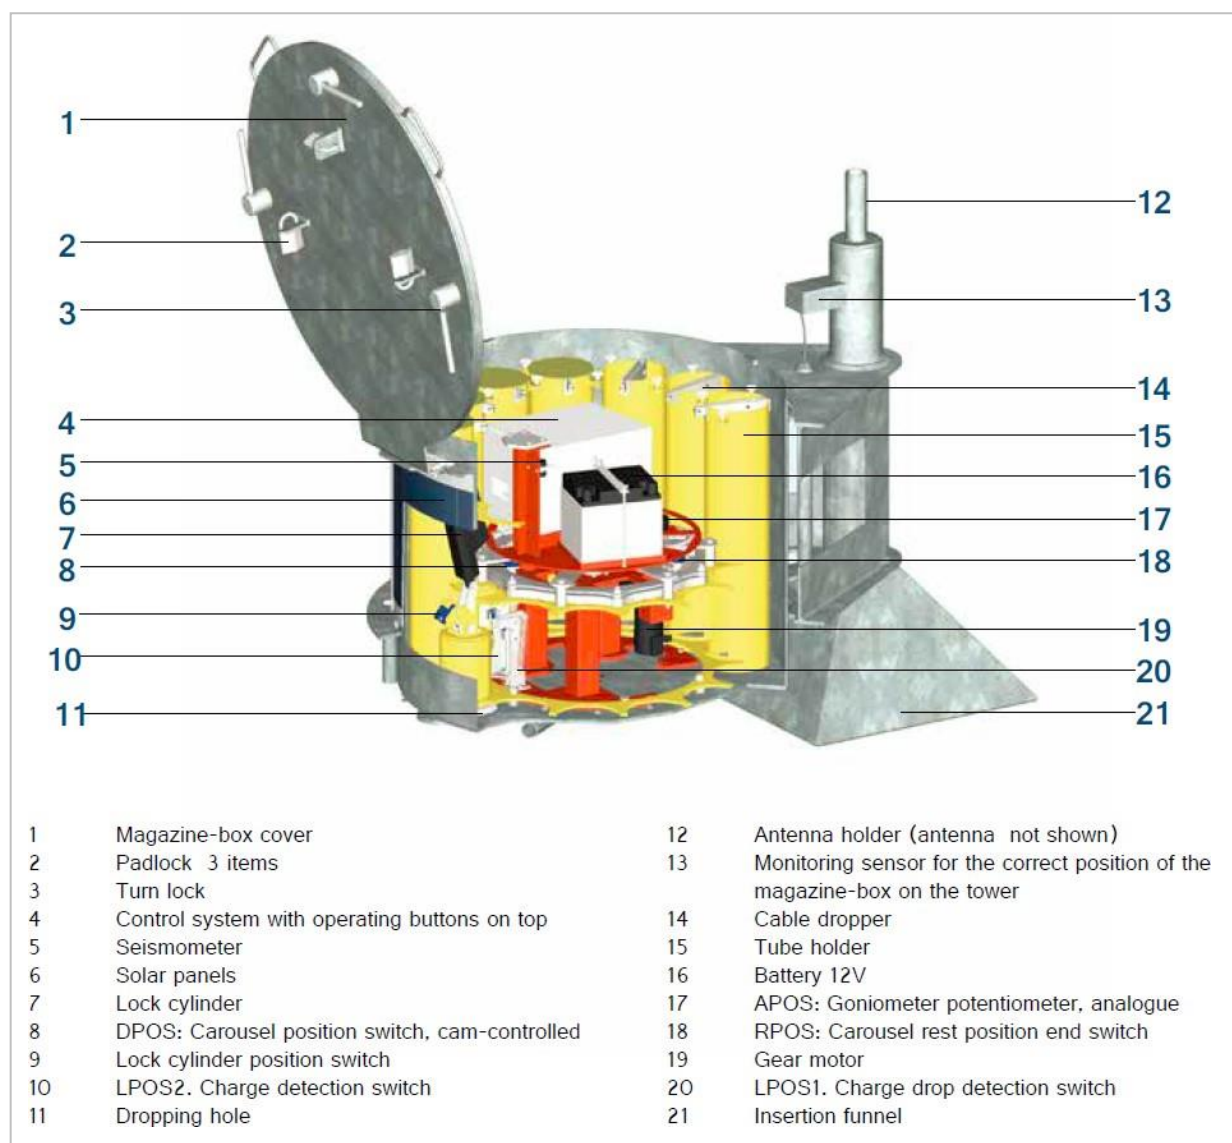

Figure 1. Components of the tower deployment box.
- The tower deployment box (Figure 1).